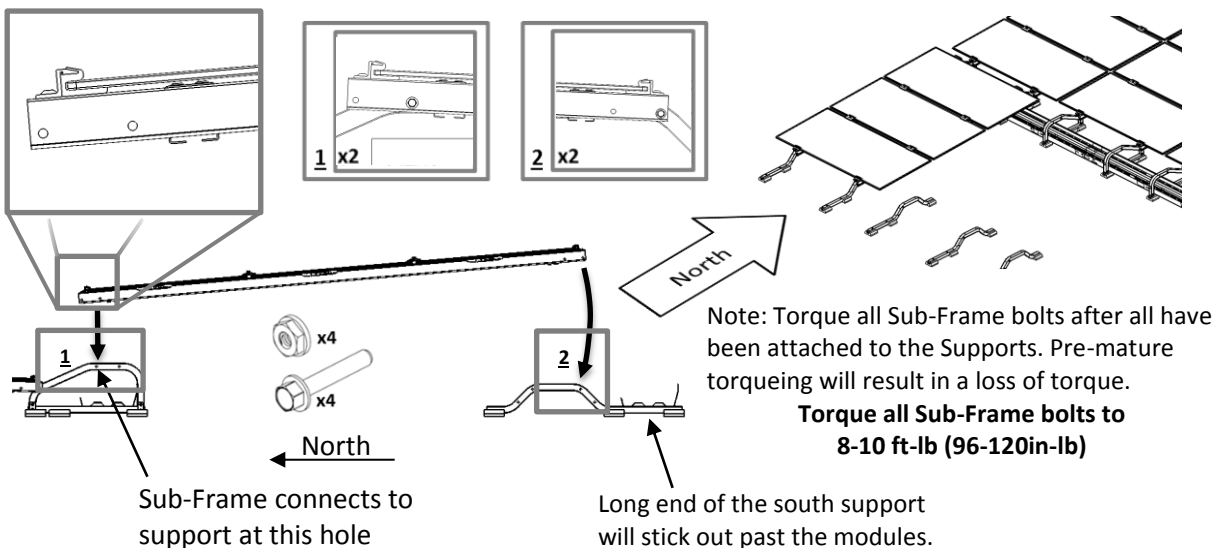

Figure 13 Installation of South Support
- 4.7. Complete the array by constructing row-by-row until the south array edge. Install the South Supports as shown in Figure 13.